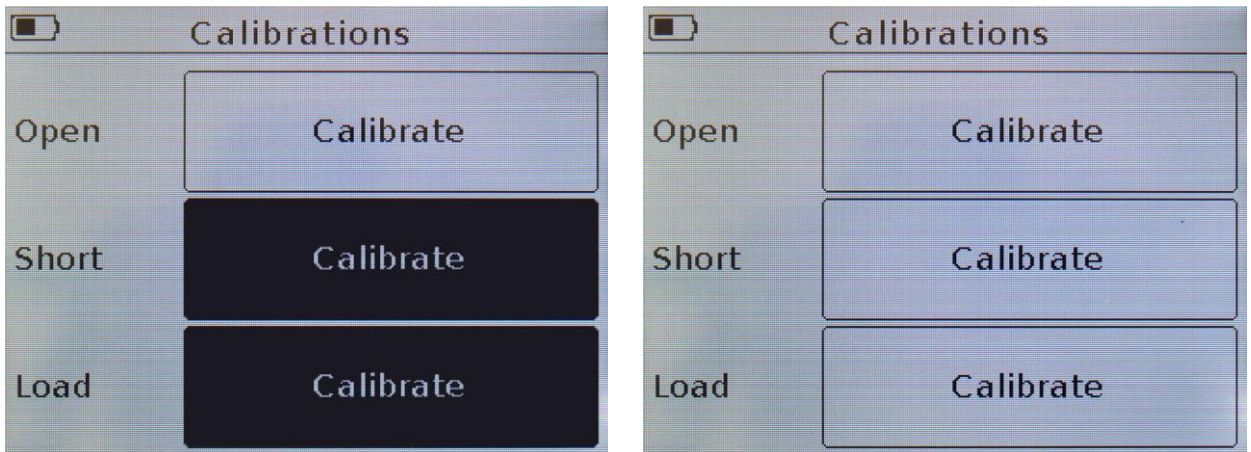

Figure 9.15 – Calibration Menu ARINST VR 1-6200 and ARINST VR 23-6200
9.5.1. To enter the calibration menu, enter the device main menu by pressing the “**MENU**” button (12) (Figure 9.1) and select the **Calibration** section. The screen will display the calibration menu as shown in figure 9.15.